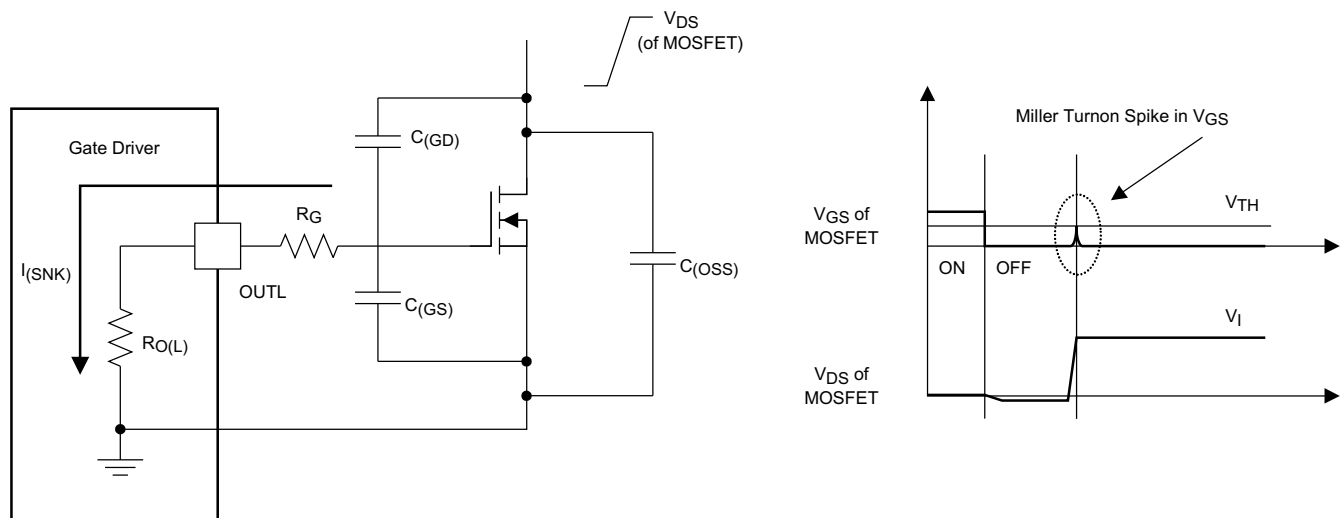

图 6-6. Very-Low Pulldown Impedance in UCC27511A, 4-A and 8-A Asymmetrical Drive (Output Stage Mitigates Miller Turnon Effect)
An example of a situation where the Miller turnon effect is a concern is synchronous rectification (SR). In an SR application, the dV/dt occurs on the MOSFET drain when the MOSFET is already held in off state by the gate driver. The current discharging the $C_{(GD)}$ Miller capacitance during this dV/dt is shunted by the pulldown stage of the driver. If the pulldown impedance is not low enough then a voltage spike can result in the V_{GS} of the MOSFET, which can result in spurious turnon. This phenomenon is shown in 图 6-6. The UCC27511A device offers a best-in-class, 0.375- Ω (typ) pulldown impedance boosting immunity against Miller turnon.